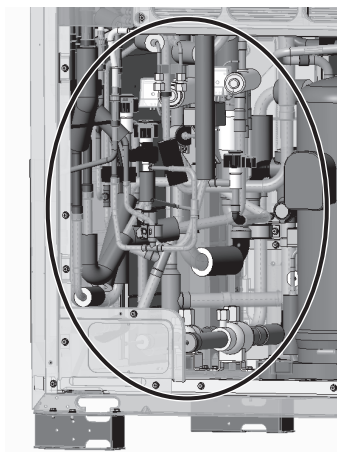

Figure 5-1
- (5) Remove the coils, coil covers, pipe covers, and adjacent wirings of the four-way valves, solenoid valves, and LEVs. (See Figures 5-1 through 5-3.)